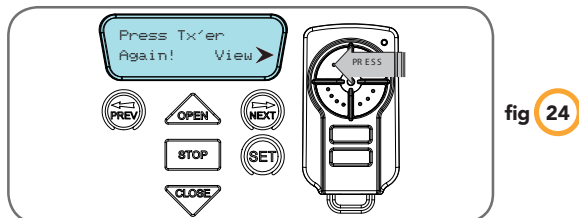

fig 24
3. Press same transmitter button again as prompted by display (Fig. 24).